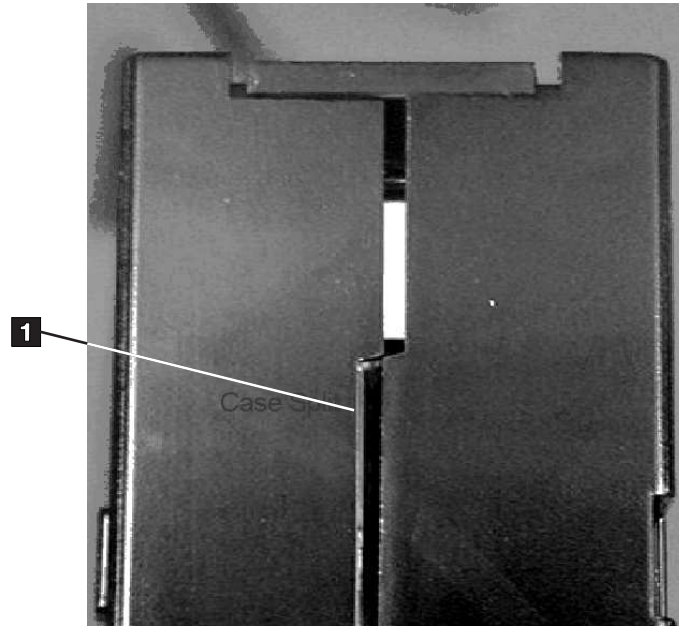
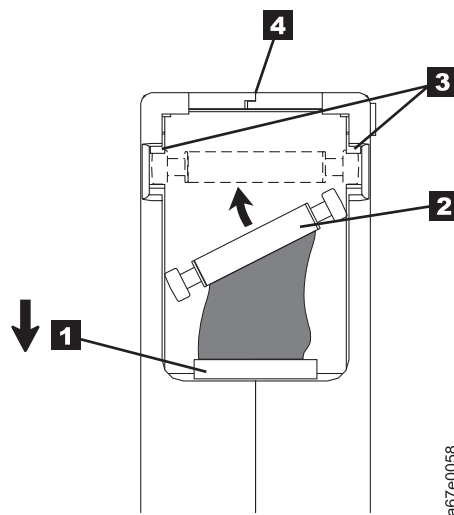

Figure 17. Checking for gaps in the seams of a cartridge
Figure 19. Placing the dislodged leader pin into the correct position. The cartridge door is open to show the leader pin.
- Inspect the rear of the cartridge (the part that loads first into the tape load compartment) and ensure that there are no gaps in the seam of the cartridge case (see **1** in Figure 17 on page 53 and **4** in Figure 19 on page 55). If there are gaps in the seam (see Figure 17 on page 53), the leader pin might be dislodged. Go to “Repositioning or reattaching a leader pin” on page 54.
Split cartridge case. See Figure 17.
1. Slide open the cartridge door (**1** in Figure 19) and locate the leader pin **2** (you might need to shake the cartridge gently to roll the pin toward the door).